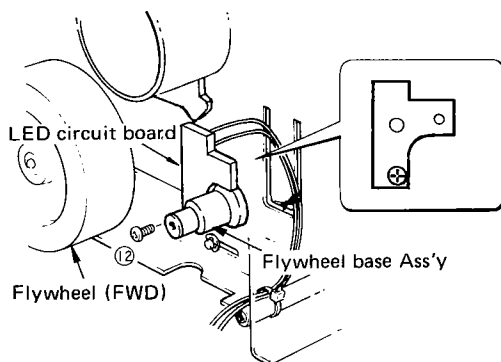

Fig. 9
- Remove 1 screws (⑫) in Fig.9 and then remove the LED circuit board.